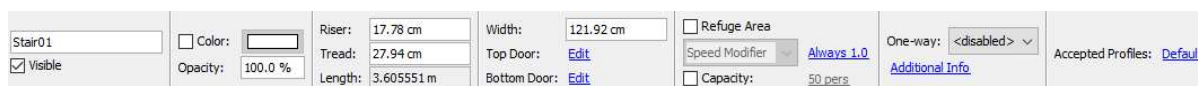

Figure 53. Stair property panel
Stairs have a number of properties that control their geometry and behavior of occupants that travel on them. When a stair is selected, these properties can be seen in the stair's property panel as shown in Figure 53.
2. Select the stair (or several) so its properties are visible in the property panel as shown in Figure 53.